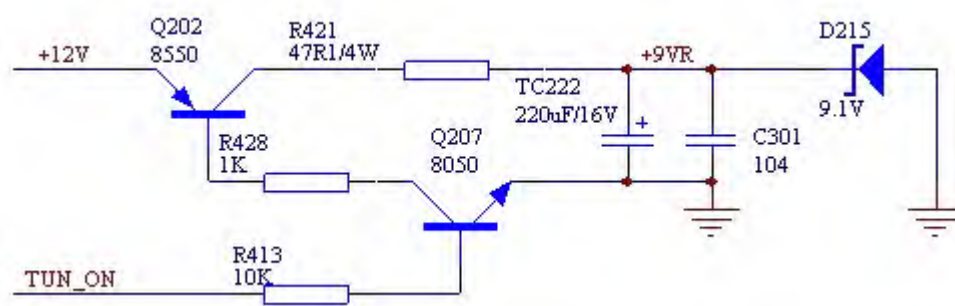

Figure 3.2.17.1 Tunerswitch circuit diagram
1. Tuner switch circuit is shown as the following figure 3.2.17.1: